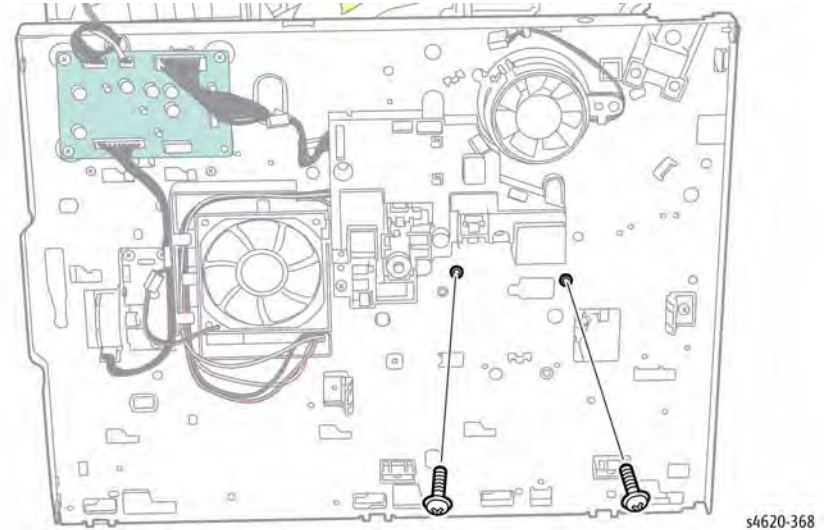

Figure 5 Remove the left side middle frame assembly screws
21. Remove 2 (plastic) screws that secure the left side of the middle frame assembly, Figure 5.